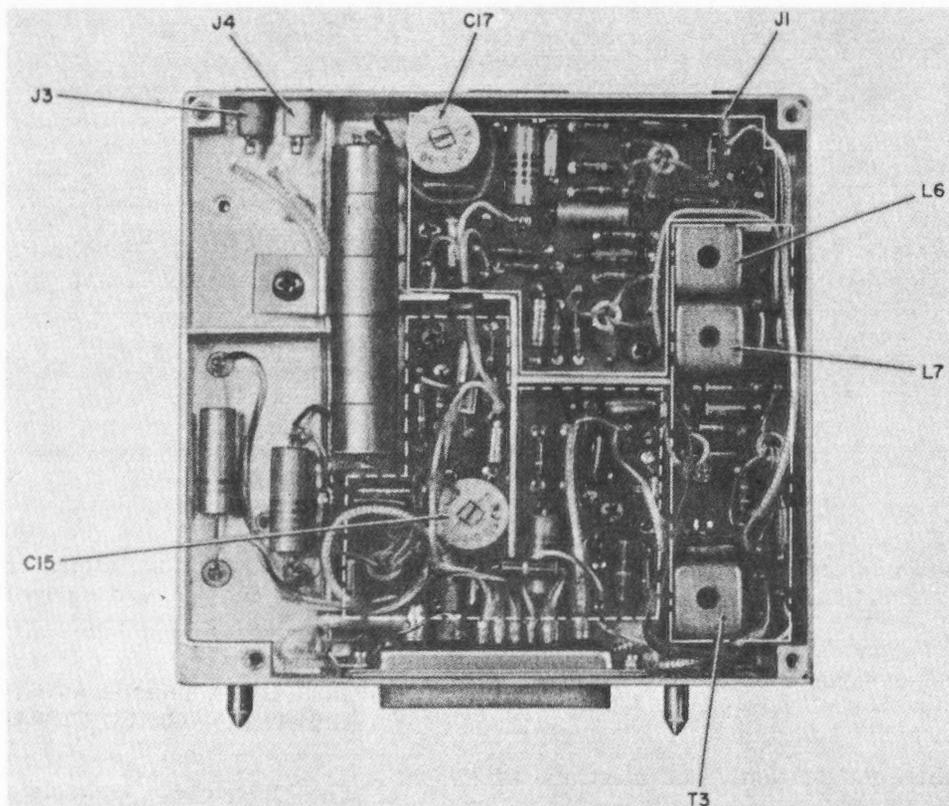

Figure 6-18. Amplifier-Modulator AM-3507/PRC-47 (A2), Side View
(6) On module A2, adjust capacitors C15 and C17, coils L6 and L7, and variable transformer T3 (figure 6-18) for a maximum reading on the vtm.